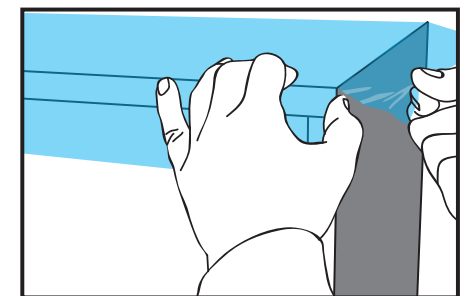

Figure 05
- ▶ Apply the film to one of the table's edges by folding the film edge over the perpendicular angle. (FIG. 05)